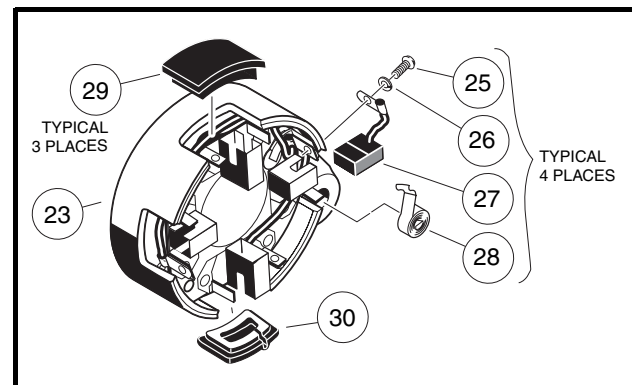
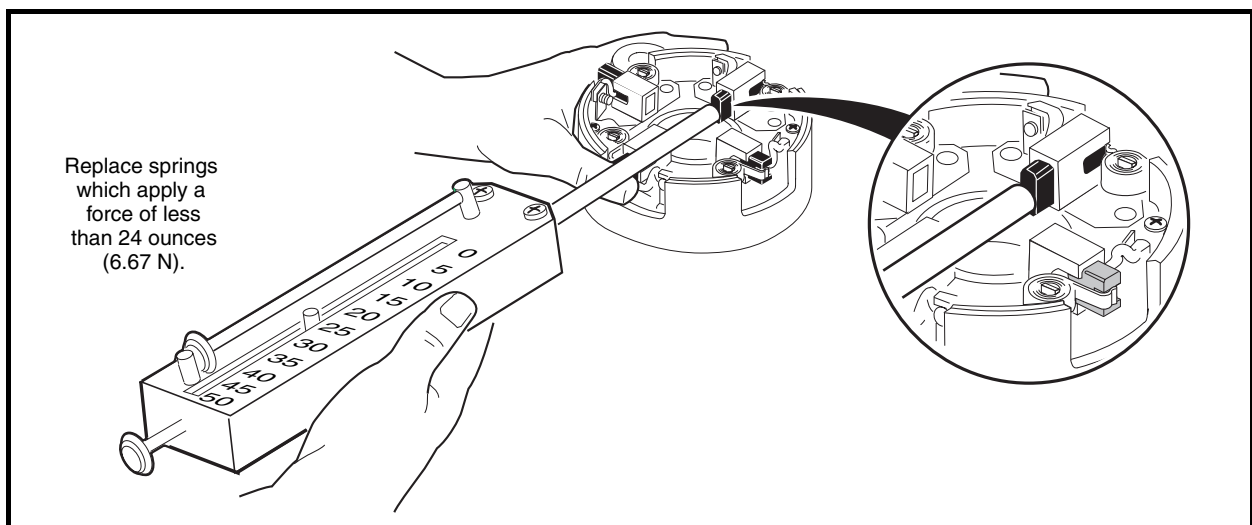

Figure 13-3 Brush Covers and Brushes
Figure 13-5 Brush Spring Tension Test
2. Remove brush covers (29 and 30), screws (25), lockwashers (26), brush springs (28) and brushes (27) (Figure 13-3, Page 13-2). See following NOTE.
2. Install the four brushes (27) into their holders and insert the four brush springs (28) (**Figure 13-3, Page 13-2**). Using a spring scale, test brush spring tension. If any spring has a tension less than 24 ounces (6.67 N), replace all four springs (**Figure 13-5, Page 13-3**). See following CAUTION.
1. Connect the brush wires to the holders using four lockwashers (26) and four screws (25). Make sure the crossover leads are also connected. Tighten the screws to 31 in-lb (3.5 N·m) (**Figure 13-3, Page 13-2**).
4. Push the brushes down into the holders. Place springs into the notches in the brushes. Install the brush cover (30) that has the drain hole in it next to the A2 terminal. Install the remaining three brush covers (29) onto the openings in the commutator end cover (23) (**Figure 13-3, Page 13-2**).
10. Push the brushes down into the holders. Place springs into the notches in the brushes. Install the brush cover (30) that has the drain hole in it next to the A2 terminal. Install the remaining three brush covers (29) onto the openings in the commutator end cover (23) (**Figure 13-3, Page 13-2**).